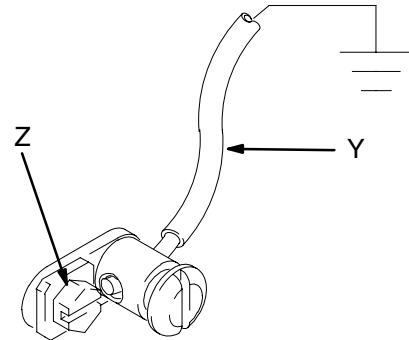

Fig. 2
- **Pump:** Use ground wire and clamp as shown in Fig. 2. To order a Grounding Wire and Clamp Kit, order Part No. 222011.
**To ground the pump,** remove the ground screw (Z) and insert through the eye of the ring terminal at end of ground wire (Y). Fasten the ground screw back onto the pump and tighten securely. Connect the other end of the ground wire to a true earth ground. See Fig. 2.